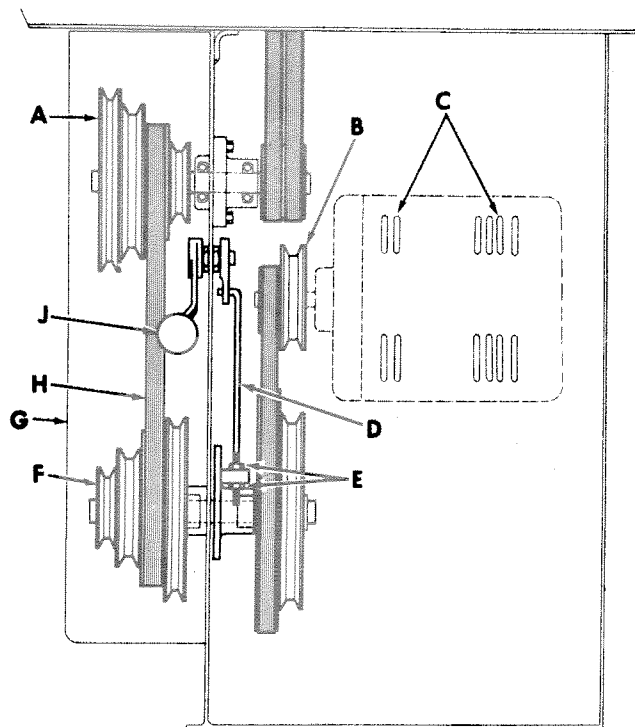
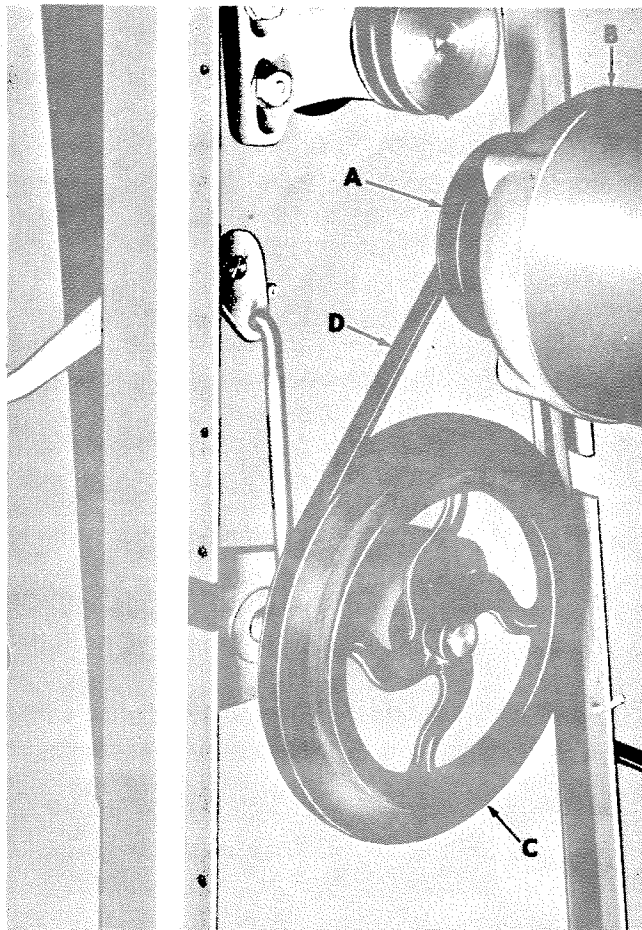

FIGURE 1
FIGURE 3
Open belt guard (G, Fig. 1) and install long countershaft belt (H) on spindle drive shaft pulley (A) and then on countershaft pulley (F).
2. Slide motor pulley (B, Fig. 1) on motor shaft (large step toward motor) -- DO NOT TIGHTEN set screw.
5. Mount motor (B, Fig. 3) to INSIDE BACK PANEL OF CABINET by sliding mounting bolts thru slots (C, Fig. 1) in back of cabinet. Hold motor in position with wooden block. Go around to back of cabinet and start hex nuts on mounting bolts -- DO NOT TIGHTEN securely.
6. Move motor pulley (A, Fig. 3) on the shaft until it aligns with countershaft pulley (C) -- tighten set screw securely.
7. Place belt (D) on motor and countershaft pulleys.